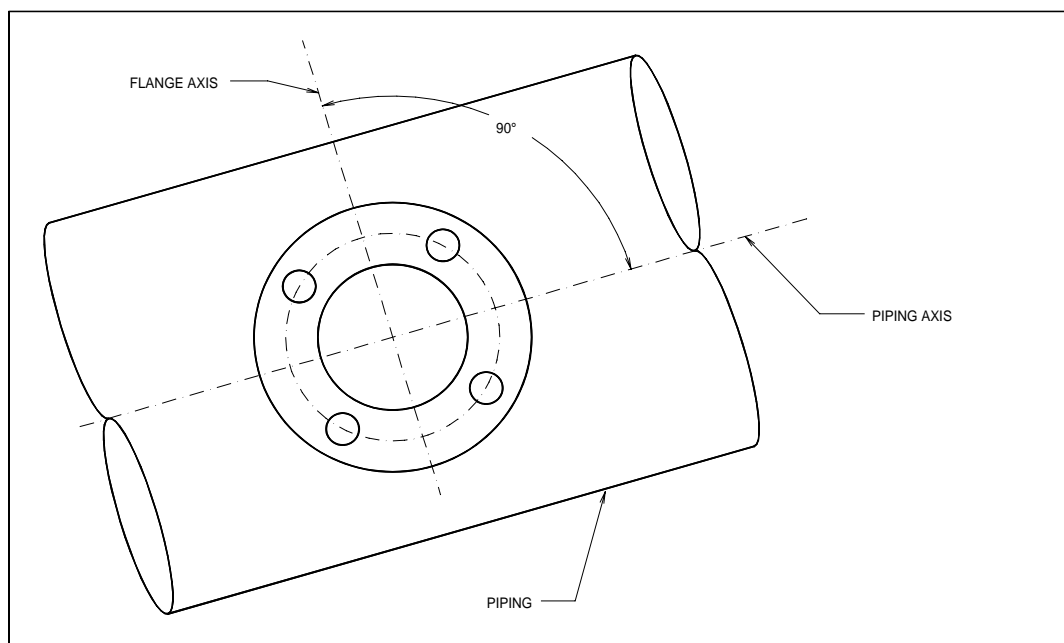

Fig. 11.1
- d) flange axis must be at 90° with the piping axis (see Fig. 11.1)
- Screw up the 1”1/4 BSP or NPT fixing device over the female sleeve; it is useful to use the Teflon film for avoiding leakage. When the sensor is put in the correct position (insertion depth = 1/8 Di) and in the correct direction (Fig. 11.1) you can block the blocking nut.